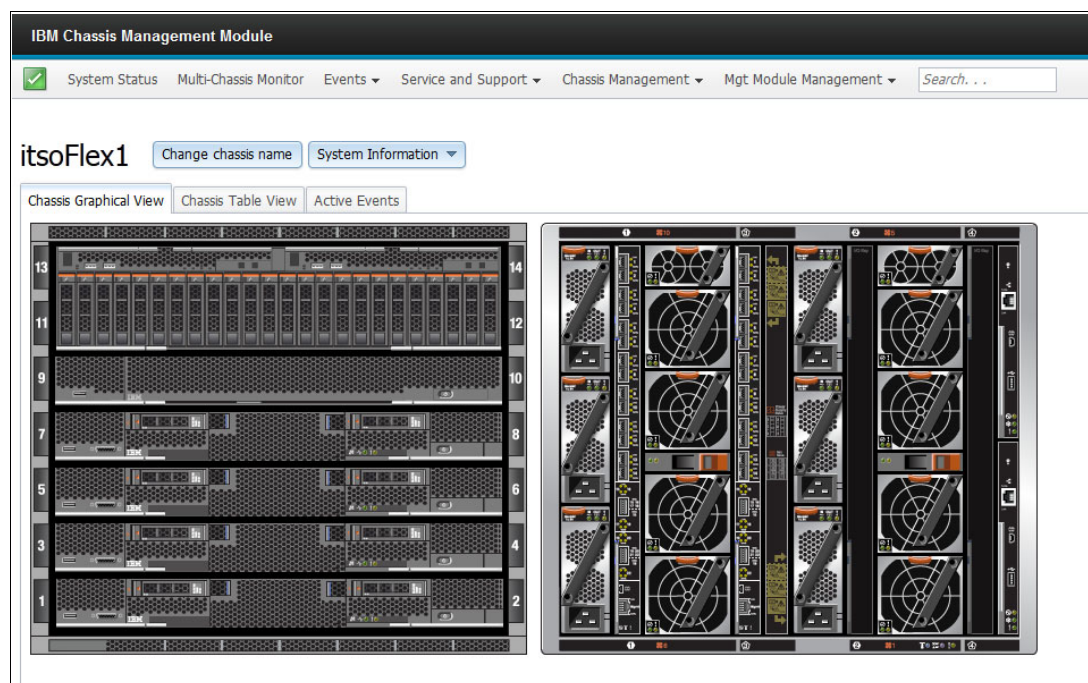

Figure 5-45 Flex Chassis with 4 X6 scalable nodes installed
1. Use the CMM web interface to check whether the compute node has been discovered and is in an OK state. An example is shown in Figure 5-45. If any of the nodes to be interconnected are shaded yellow or red, resolve any issues that have arisen before continuing.